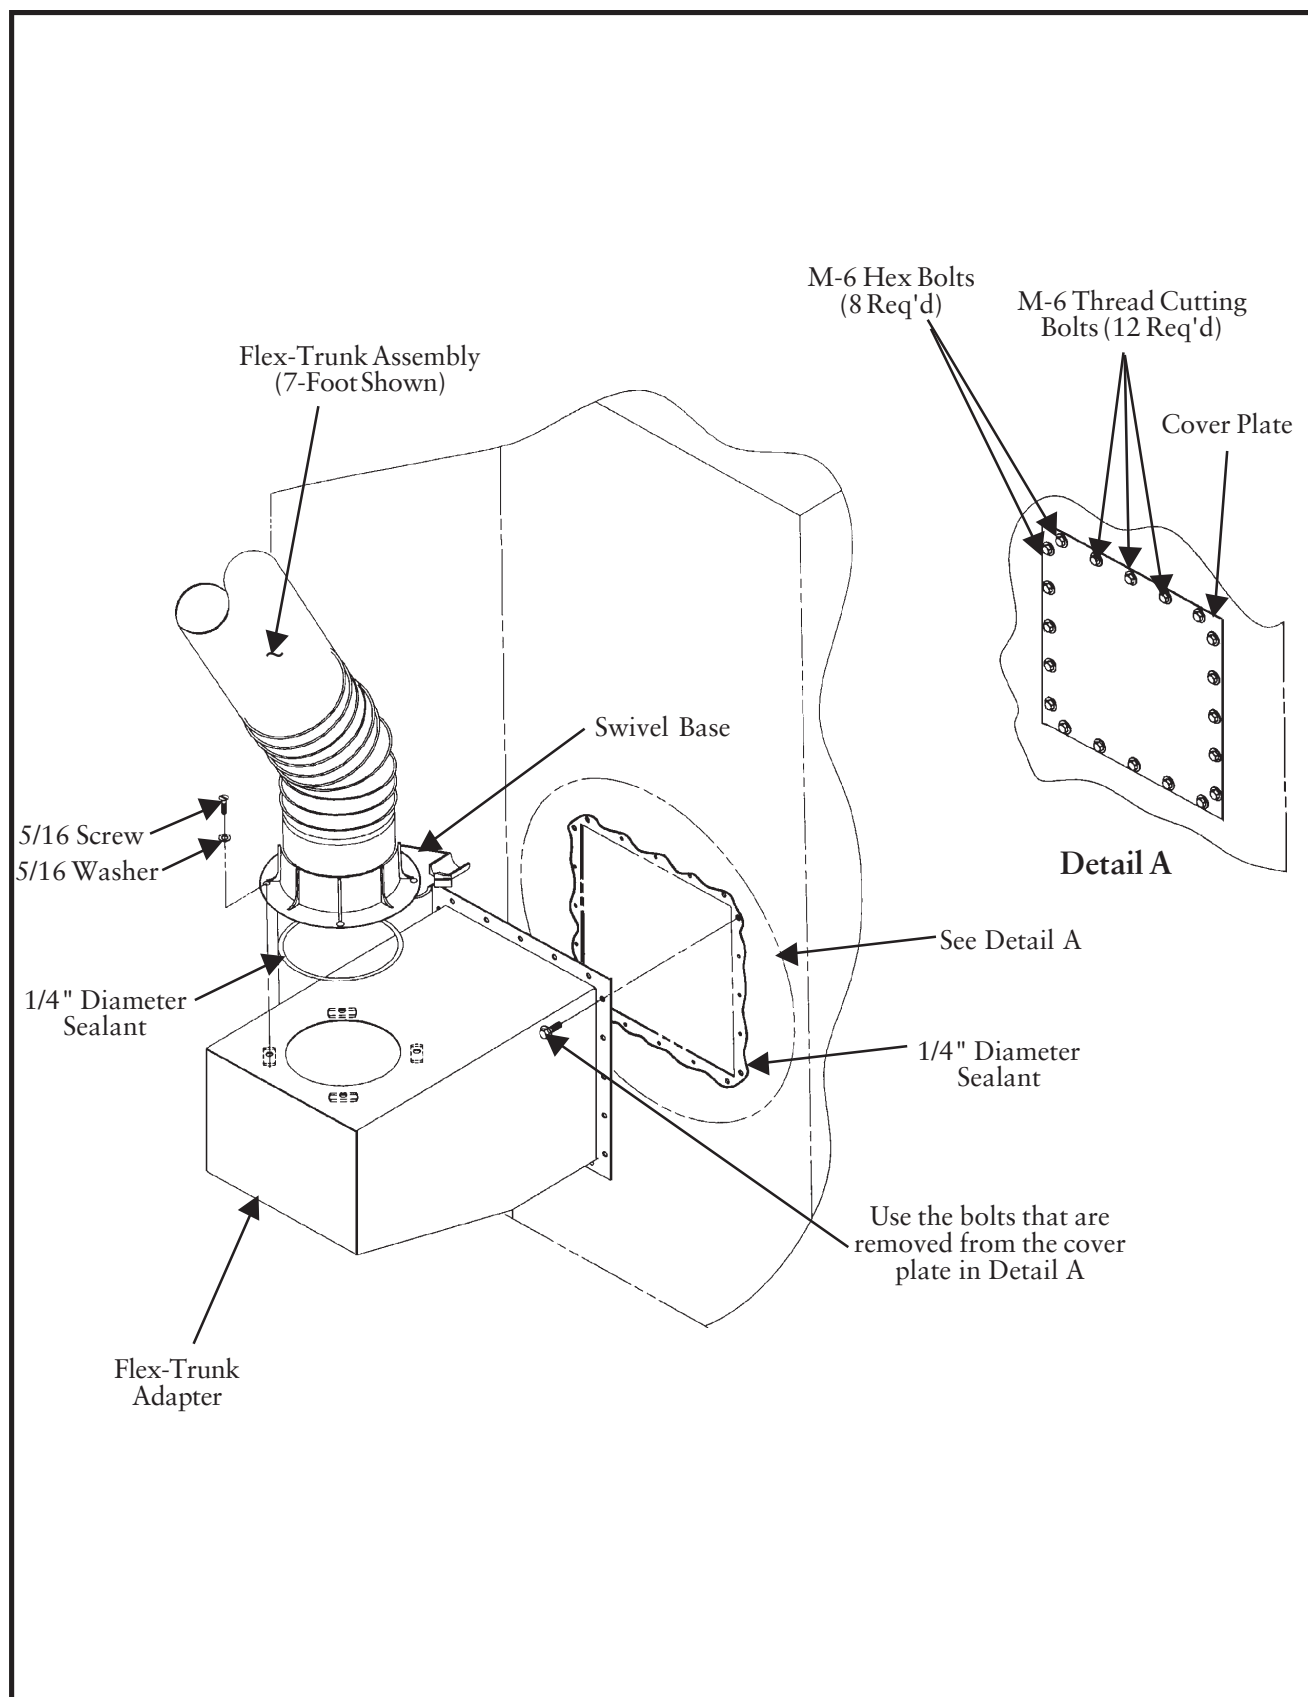

Figure 12
2.5.11 Flex-Trunk Assembly 7 Ft/10 Ft (See Figure 12 Flex-Trunk Assembly)
Remove the cover plate bolts and the cover plate from either the right or left side of the SDF cabinet. Using the same cover plate bolts, attach the Flex-Trunk Adapter to the side of the SDF cabinet. Be sure to place 1/4" diameter sealant between the adapter and the cabinet, as shown in Figure 12 Flex-Trunk Assembly. Next, attach the Flex-Trunk assembly to the adapter, being sure to install more 1/4" sealant between the adapter and the Flex-Trunk assembly. With the swivel base positioned as shown in Figure 12 Flex-Trunk Assembly, secure the Flex-Trunk to the adapter using the four (4) 5/16 slotted screws and lock washers. For the adjustment and operation of the Flex-Trunk, see the Installation and Operation Manual for the Flex-Trunk IOM-40779-00.